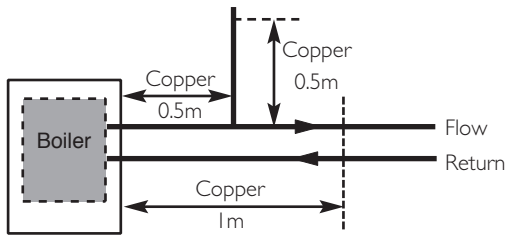

Fig. 5
4. In systems using non-metallic pipework it is necessary to use copper pipe for the boiler Flow and Return. The copper must extend at least 1 metre from the boiler and include any branches (Fig. 5). The copper pipe must not be insulated.